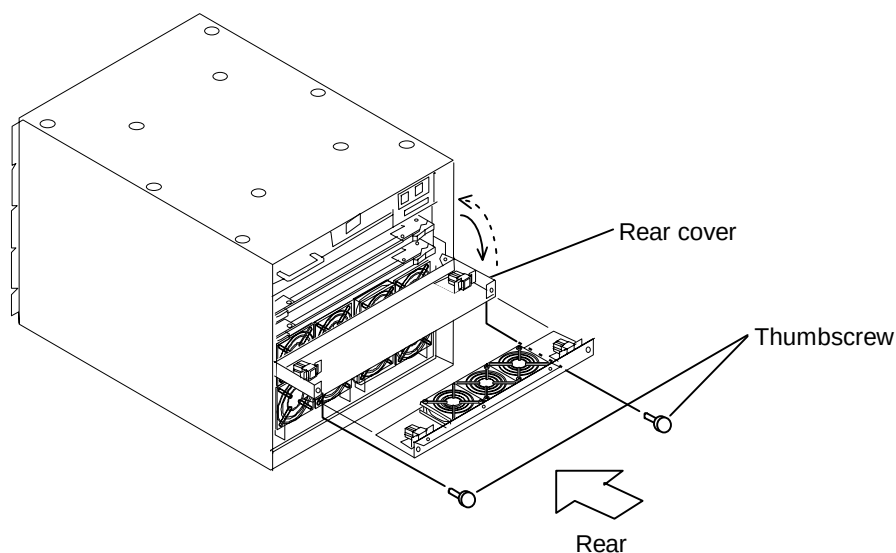

Figure 2.5.3 Opening/Closing the Rear Cover
(1) Opening procedure (See Figure 2.5.3.)
- ① Remove 2 thumb screws of rear cover and open rear cover.
(2) Closing procedure (See Figure 2.5.3.)
- ① Close rear cover in the reversed order of removing procedure.